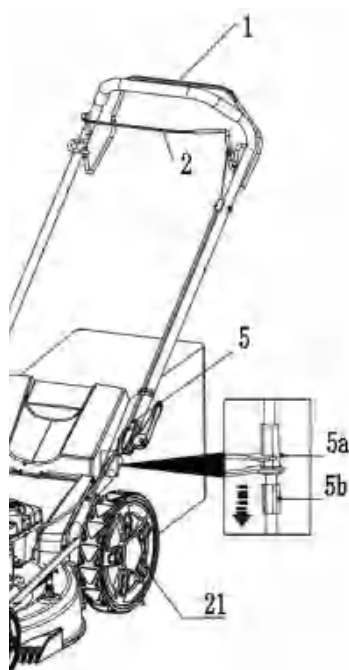

Fig. 30
If the rear wheels (21) do not rotate when operating the self-propelling lever (1), it may be necessary to adjust the self-propelling wire (5) (Fig. 30).